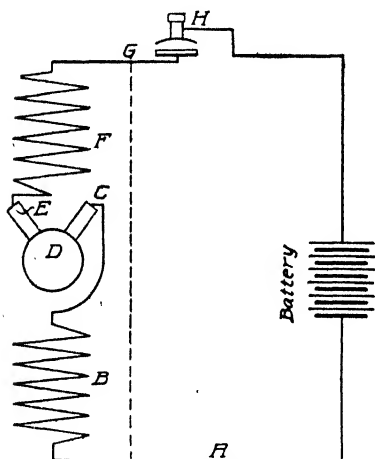
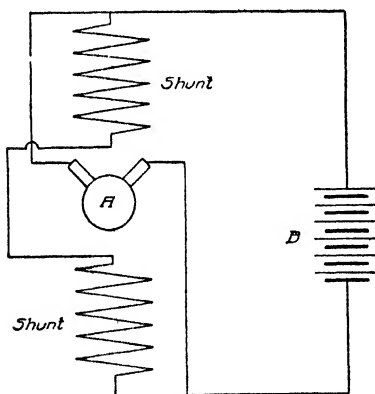

Fig. 276. Starting-Motor Circuit for Dyneto System
Fig. 277. Generator Circuit for Dyneto System
**Starting Motor.** This starting motor is of the standard series-wound type of the same characteristics of design as the generator. In Fig. 276 is shown the wiring diagram of the starting circuit and illustrates plainly the relation of the series fields *B* and *E* to the armature *D* and the brushes *E* and *C*. *H* is the starting switch and *A* and *G* are the cables of a two-wire starting system. Compare Fig. 276 with Fig. 277, which shows the shunt windings of the generator and their relation to the armature and battery. In Fig. 276 the dotted line from *G* to *A* illustrates a supposed short-circuit caused by chafing, or abrasion, of the insulation of the wires.